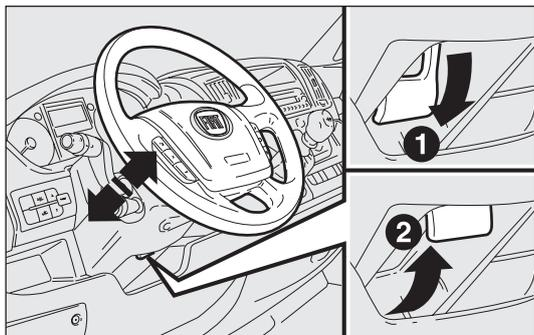

fig. 39
- release lever fig. 39 by pulling it towards the steering wheel (position 2);